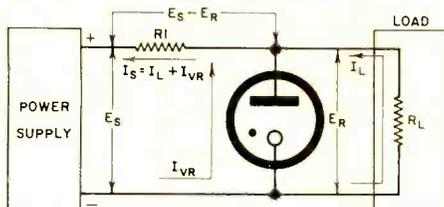
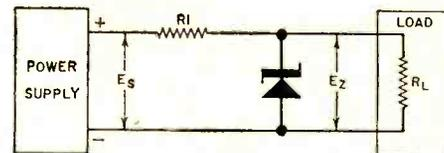

Fig. 1. Simple VR-tube voltage-regulator circuit showing load current (I_L), VR tube current (I_{VR}), and total supply current (I_s).
Fig. 4. Basic zener diode regulator circuit design.
The most commonly used regulator circuit is shown in Fig. 1. It is extremely simple and inexpensive and makes a very desirable addition to almost every piece of electronic equipment. The circuit uses a special voltage-regulator (VR) tube which is a cold-cathode, gas-filled tube. If a high enough voltage is applied across the tube, the gas will ionize and current will flow between cathode and plate. Once the tube is ionized, the voltage across it remains practically constant regardless of current and ionization changes in it. This unique characteristic makes it a desirable regulating element.
To understand the operation of a properly designed shunt VR-tube regulator circuit, like that of Fig. 1, assume that the power supply is turned on, the VR tube is ionized, and no
It is easy to design a VR-tube regulator like the one in Fig. 1, since all that is involved is selecting the right value for R_1 under specified supply and load conditions. Only simple Ohm's Law calculations are involved.
In this design, the problem again is to select the proper value of R_1 . This is easily done by Ohm's Law if the voltage across R_1 and the current through it is known. From Kirchhoff's Laws we know that the voltage across R_1 is equal to the supply voltage minus the load voltage, and the current through R_1 is the sum of the load and VR-tube currents. See Fig. 1. Using this relationship, the formula for finding R_1 is:
The basic zener shunt regulator circuit is shown in Fig. 4. Its configuration and operation is exactly the same as that of the VR-tube circuit of Fig. 1. Assuming a constant supply voltage, if the load current changes the zener current will also change in such a manner to keep constant the total current drawn from the supply. An increase in load current is compensated for by an increase in zener resistance and a decrease in zener current. A decrease in load current is offset by a lower zener resistance and a higher zener current. Since the total current drawn from the supply through R_1 is the sum of the zener and load currents, the action just described is regulation—maintaining the constant current through R_1 and a constant voltage across the zener and the load.